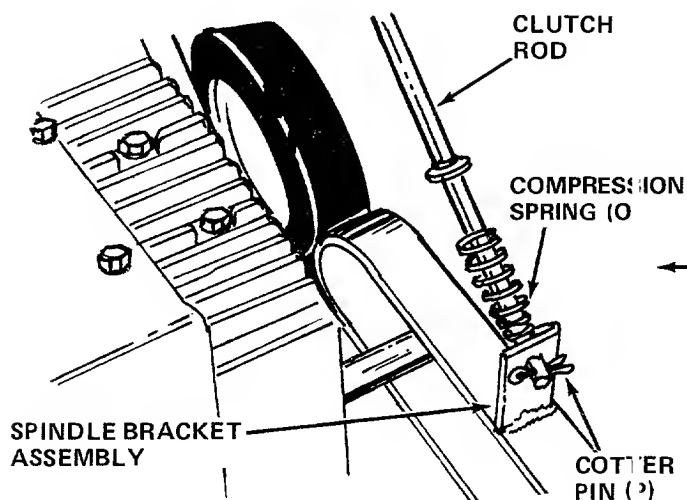

FIGURE 8
10. Place compression spring (O) over straight end of clutch rod (U). Place end of rod in spindle bracket assembly and secure with cotter pin (P). See figure 8.